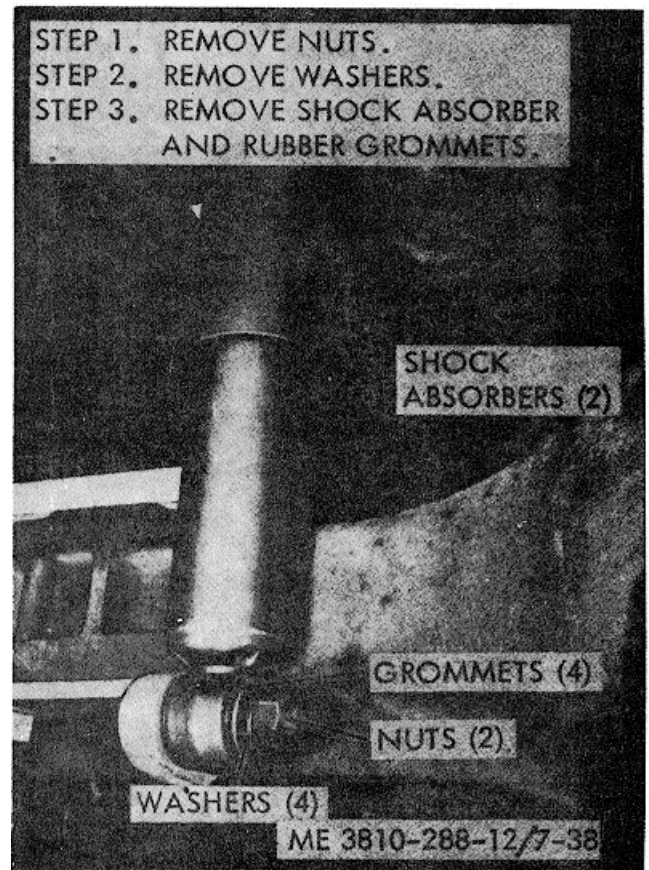

Figure 7-38. Shock absorbers, removal and replacement.
(1) Removal Refer to figure 7-38, and re-move the shock absorbers.
(2) Installation. Refer to figure 7-38 and install the shock absorbers.